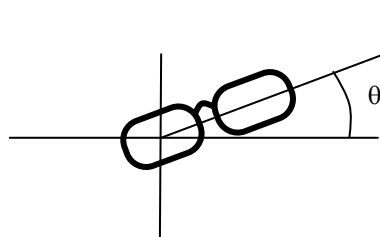

Figure 7. Positioning eyeglass
- (ii) Left eyeglass are placed in front of LMS and luminance is measured, rotating right eyeglass such as FIG 7. The notation for luminance measurement is "Lum(LE, LB-RW,1)".